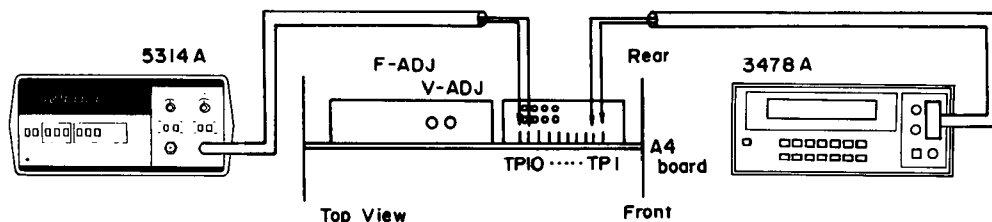

Figure 5-1. DC Power Supply Adjustment Setup.
1. Connect the HI lead of the 3478A to A4TP1 (+5 DIG) and the LO lead to A4TP2 (DIG GND) as shown in Figure 5-1
6. Disconnect the 3478A and connect the 5314A to A4TP9 (DIG PWM) and TP10 (GND) using a 1:1 probe as shown in Figure 5-1.